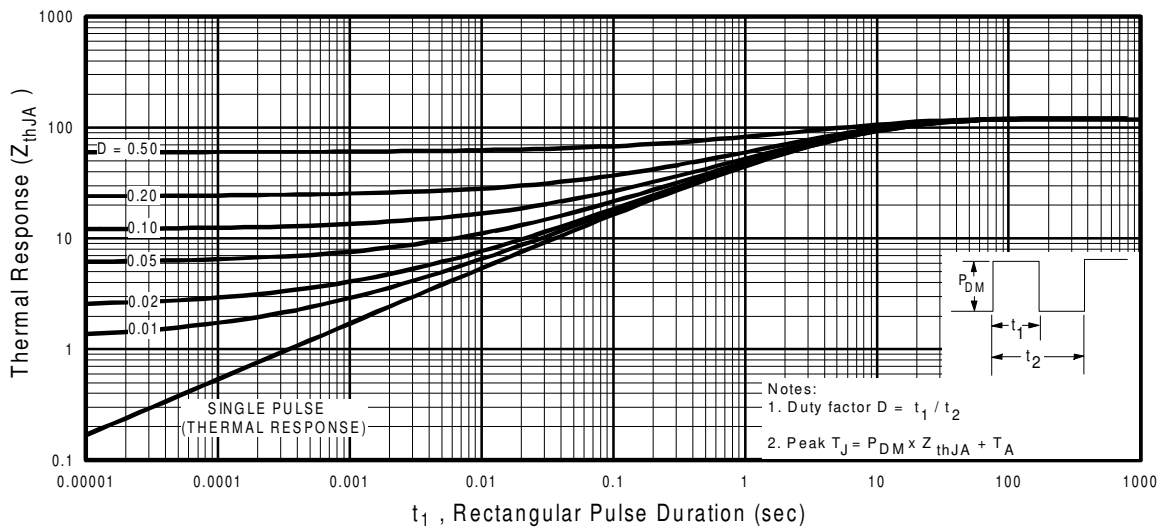

Fig 11. Maximum Effective Transient Thermal Impedance, Junction-to-Ambient
- ① Repetitive rating; pulse width limited by max. junction temperature. (See fig. 11)
- ② $V_{DD} = 25V$, starting $T_J = 25^\circ\text{C}$, $L = 4.0\text{mH}$